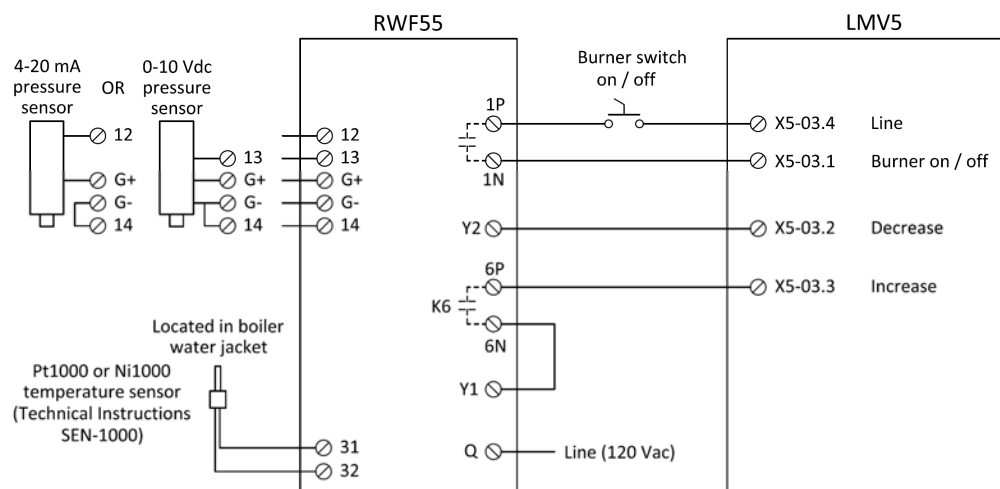

Figure 6: Low Fire Hold via 3-position Output on a Steam Boiler
3. Wire the LMV5 and RWF55 as shown in Figure 6: